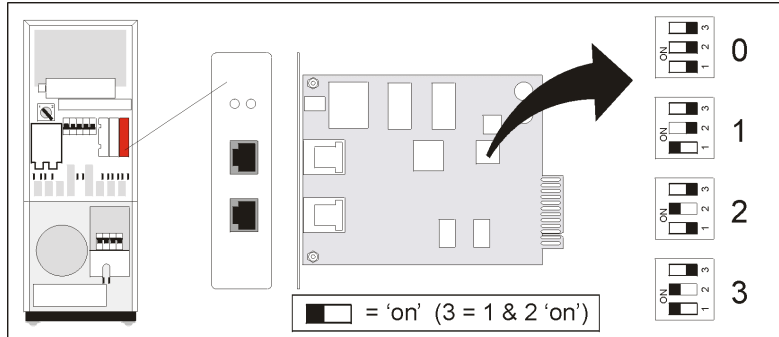

Figure 11. Appointing a unique number to each UPS in the system
5. The right option slot (14) at the rear of the unit contains the RPA-card. Before the parallel system can be put into operation a unique number has to be appointed to each UPS in the system. This can be 0, 1, 2 or 3. Start with 0 for the first unit, 1 for the second, 2 for the third and 3 for the last unit:
- set the dipswitch to the appointed number (fig. 11)